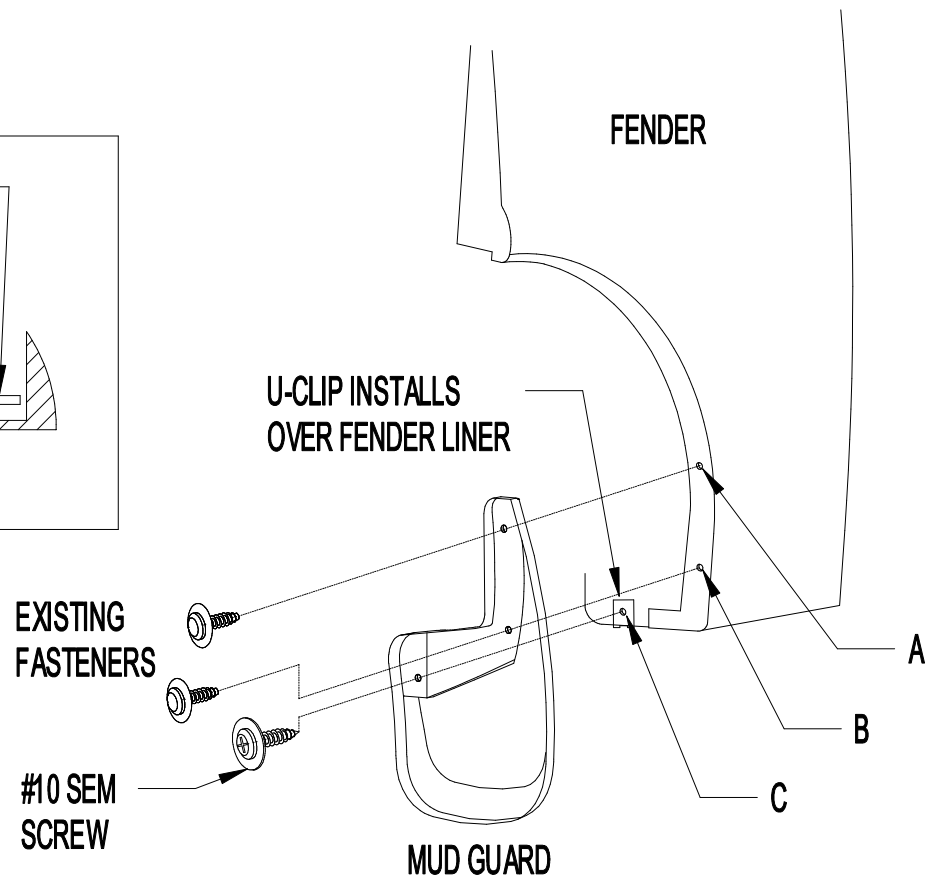

Figure 1
1. Remove the existing fasteners from locations A and B (Figure 1).
4. Install a U-clip at location C, over the fender liner and align with drilled hole (Figure 1).
5. Install a #10 SEM Screw thru the mud guard and into the U-Clip at location C (Figures 1 and 2).